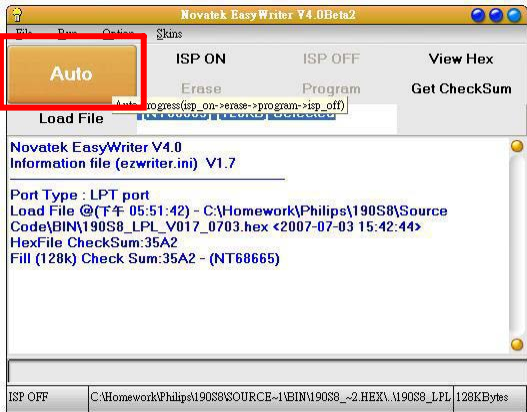

Fig.10
6. Press AUTO running program , the firmware be updated as shown in Fig. 10.
- 3).Press "MENU" button, wait until the OSD menu come on the Screen of the monitor.as shown in Fig.10